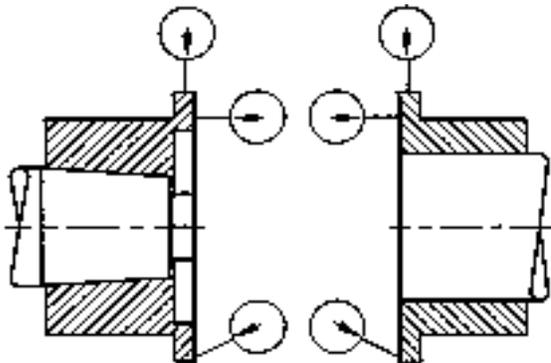

Figure 2
3. Disassemble the coupling by removing the hub bolts on each end. Fit the appropriate hubs (and/or adapters) to the driver and driven shafts in the usual manner insuring that the shaft ends are flush with the faces of the hubs (Figure 2). For 'interference fits' we recommend heating the hubs in oil or oven and quickly positioning on shafts (do not use spot heat or exceed 350° F as this may cause flange distortion).
4. Check that the hub pilots and flange diameters are concentric to the center of rotation to within 0.004 inch total indicator runout (T.I.R.) and that the hub face is square to the center of rotation to within 0.004 T.I.R. (Figure 2). Refer to any specific requirements or standards for maximum allowable value.